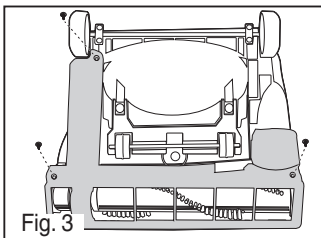

Fig. 3
- 3) Turn vacuum over. Remove 3 screws (Fig. 3) and lift off base plate.
- 3) Pull small tube down and away from vacuum body (Fig. 3).